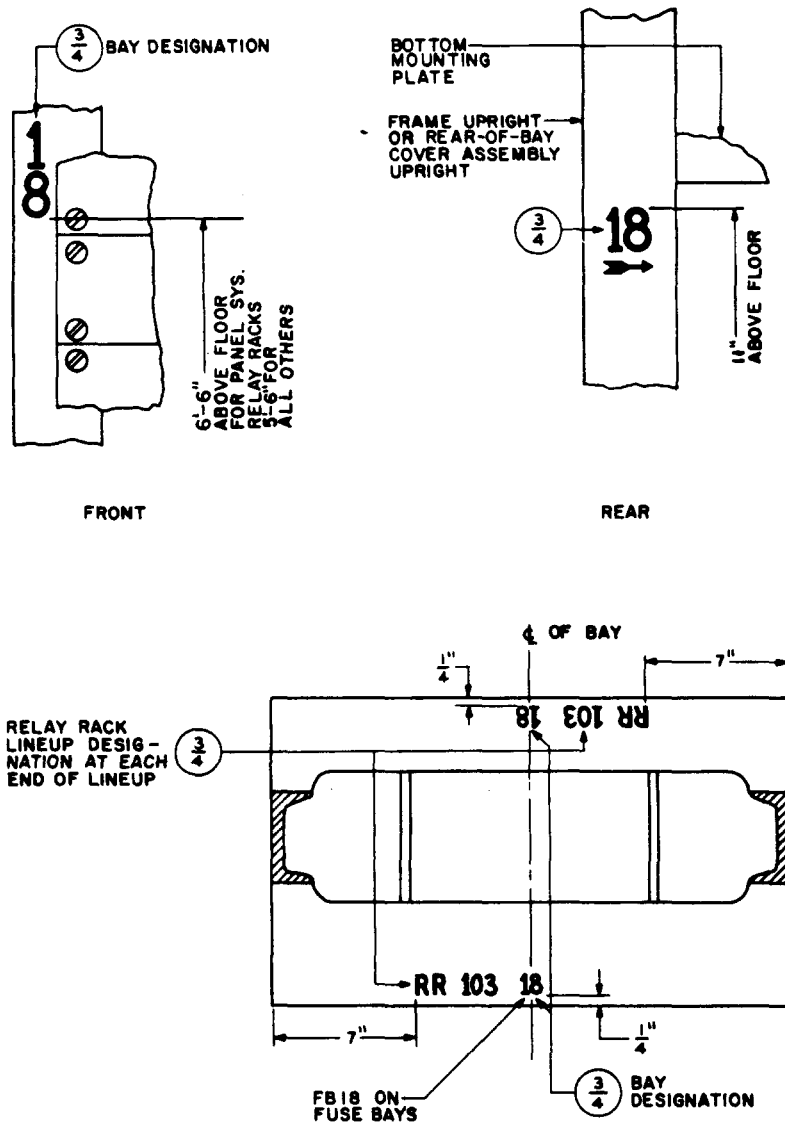

Fig. 35 - Bay and Relay Rack Line-up Designations for Channel-type Relay Rack Bays
2.55 The bay designation on bays with a sheet metal base shall be centered on the top surface of the frame base, front and rear, as shown in Fig. 35.
2.56 When relay rack line-up numbers (RR 103) are used, stamp in line with the bay designation at each end of each relay rack line-up on both front and rear, as shown in Fig. 35
2.57 The bay designations on bays with angle-type guardrails or without guardrails shall be stamped on the front face of the left upright. This rule also applies when a fuse panel is mounted at the designating height. On the rear, the bay designation shall be stamped on the face of the left upright (facing the rear), except as in (b) below. (See Fig. 35.)
and on the rear, stamp on the left upright (facing the rear) with top of characters 11 inches above the floor, as shown in Fig. 35.
2.60 On bays with angle-type guardrails, the bay designation shall be stamped on the face of the bulb of the left upright approximately 5 feet 6 inches above the floor. On the rear, it shall be stamped on the face of the left upright (facing the rear) approximately 11 inches above the floor, as shown for channel-type bays in Fig. 35.